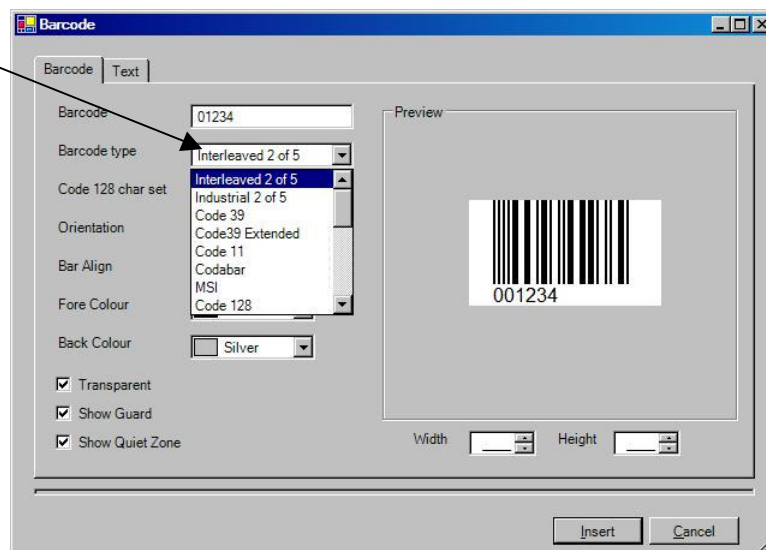

Figure 3.7.3: Barcode Selection
2. Select the type of barcode, which you will be using (see Figure 3.7.3).